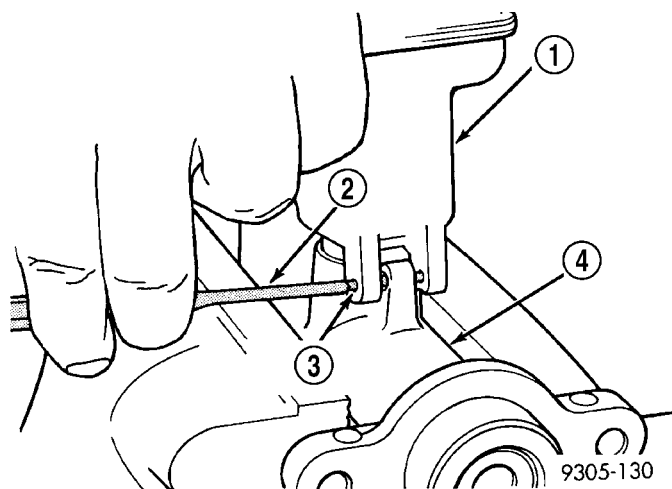

Fig. 67 Reservoir Retaining Pins
(1) Remove the master cylinder from the power brake booster. (Refer to 5 - BRAKES/HYDRAULIC/MECHANICAL/MASTER CYLINDER - REMOVAL)
(2) Using an appropriate cleaner such as Mopar® Brake Parts Cleaner, clean the master cylinder housing and brake fluid reservoir.
(3) Remove the filler cap and empty all brake fluid from reservoir.
(4) Clamp the master cylinder in vise.
(5) Remove the 2 fluid reservoir to master cylinder retaining pins (Fig. 67).
(4) Install the 2 fluid reservoir to master cylinder retaining pins (Fig. 67).
(5) Bleed and install master cylinder on vehicle. (Refer to 5 - BRAKES/HYDRAULIC/MECHANICAL/MASTER CYLINDER - STANDARD PROCEDURE)